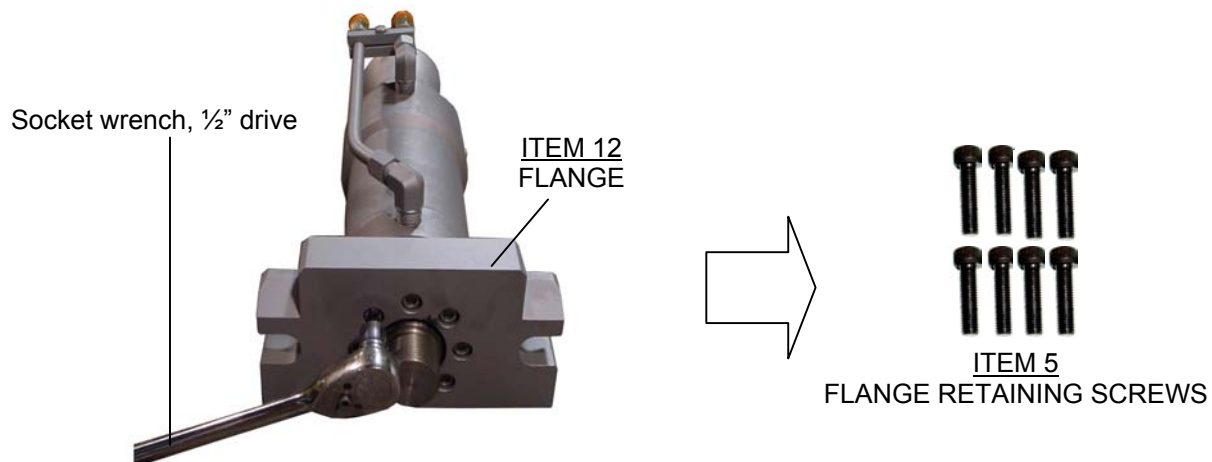

FIGURE 4
Extend the piston rod (Item 3) several inches and inspect the rod end for burrs and sharp edges. Remove any if present. Use a socket wrench with a 1/2" drive and a 5/16" allen wrench adapter to remove the (8) flange retaining screws (Item 5). See Figure 4.